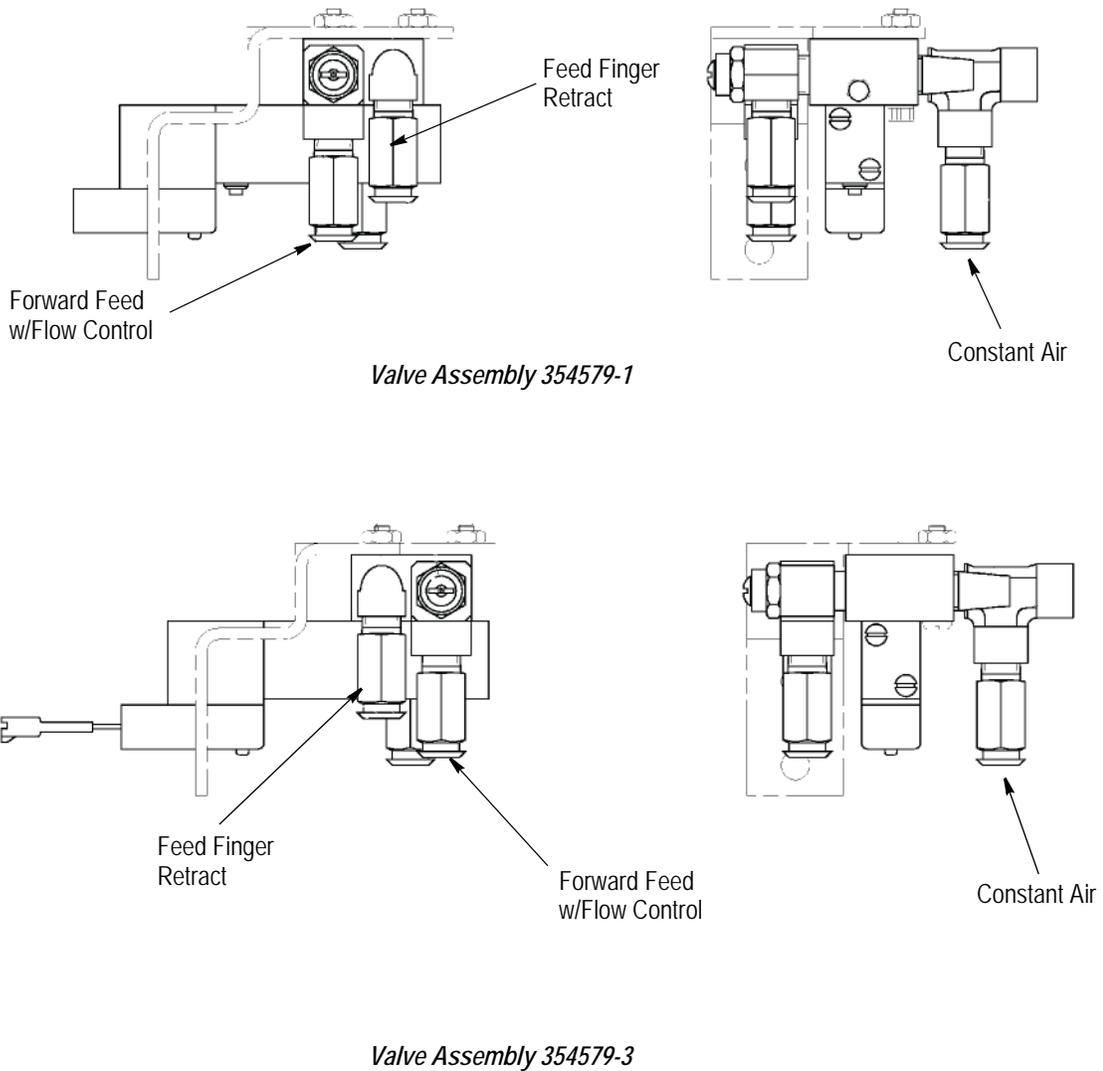

Figure 13
7. If the applicator is an air-feed type, connect the airlines to the valves located on the right side of the machine. See Figure 13.